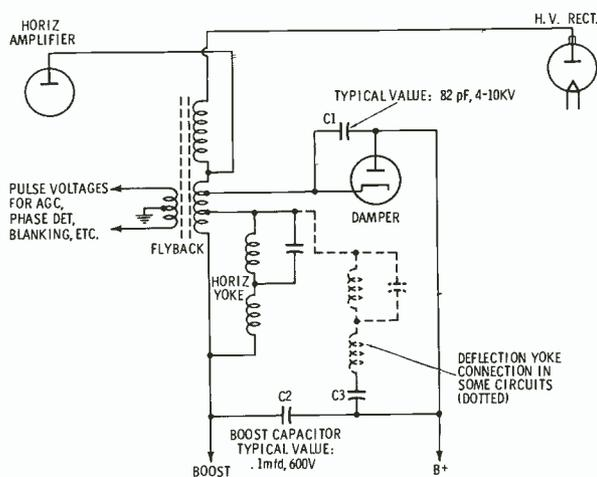

Fig. 5 Simplified schematic diagram of a common flyback circuit.
Fig. 5. More proof that markers are not what you "move" in sweep alignment: you move the curve or reshape it until peaks, dips, and skirts coincide with the markers they are supposed to.
8. Turn off the power to the set. Pull the damper tube (unless it is in the same envelope with the horizontal amplifier tube; in this case skip ahead to step 9.) Turn the set on. Check to see if the high voltage now comes on or if there is at least a noticeable increase in the arc at the rectifier plate cap. If pulling the damper tube restores the high voltage (maybe even a narrow raster), the trouble is probably caused by an excessive load on the damper circuit. The trouble may be the damper tube itself, a shorted capacitor (C2 in Fig. 5), or a shorted "matching" capacitor across the damper tube (C1 in Fig. 5). Another possible cause is an internal short between the vertical and horizontal coils in the deflection yoke, or between their leads. In some circuits, the deflection yoke is connected as shown in dotted form in Fig. 5; in this case, a shorted yoke coupling capacitor (C3) will kill the high voltage.